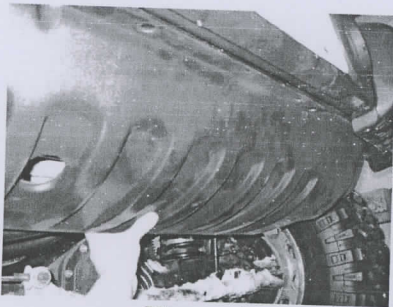

Figure 1
1. Remove the OE [Original Equipment] splash guard by removing the push rivets. **Refer to Figure 1.**